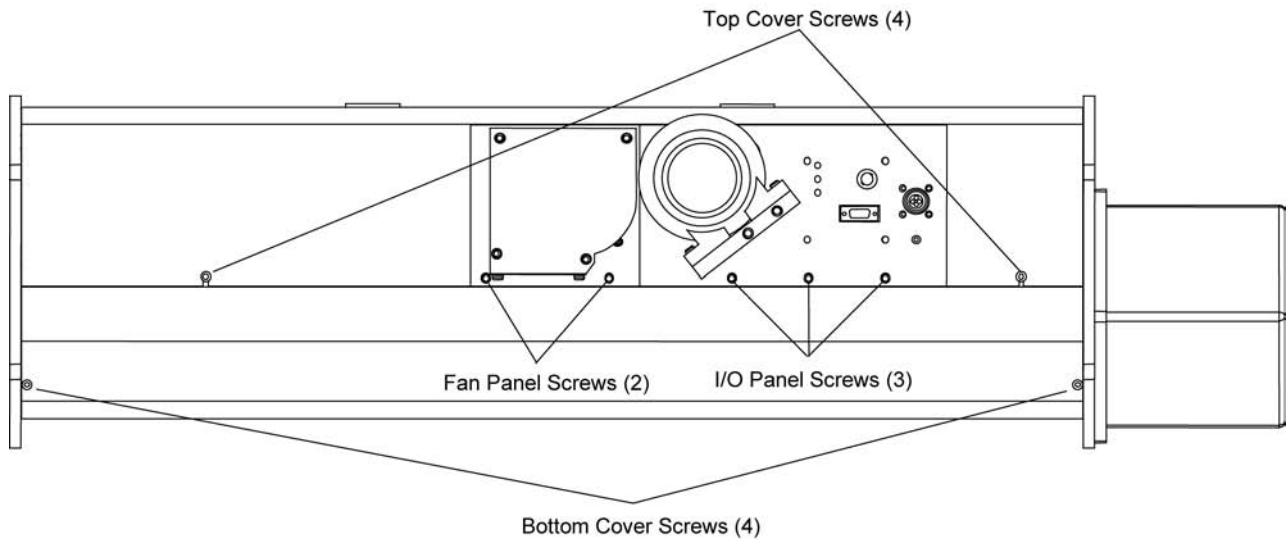

Figure 8-2
2. Loosen the four screws fastening the Nephelometer cover and remove the cover (Figure 8-2).
the four bottom cover screws (Figure 8-2). *Carefully* remove the bottom cover, working alternately at both ends. Pry the edges of the cover apart, and ease the cover away from the body of the Nephelometer.
- ❑ The easier method takes more time. After removing the I/O panel, the fan panel and the end plate, slide the bottom cover off the body of the instrument. Using Figure 8-2 as a reference: